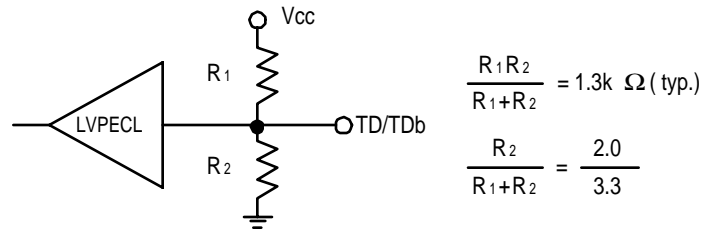

Figure 13. Internal Bias of Input Terminal
6. Input Terminal is biased internally, as shown in the figure13. 7. 20-80%.